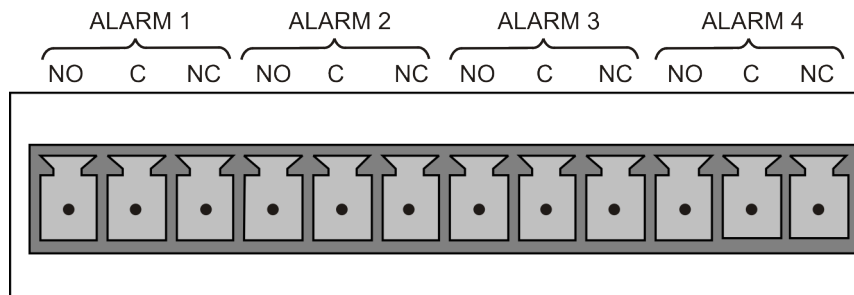

Figure 2-9. Concentration Alarm Relay
The concentration alarm option provides four (4) “dry contact” relays on the rear panel (Figure 2-9) , each with 3 pins: Common (C), Normally Open (NO), and Normally Closed (NC). The Relays can be mapped to reflect various internal instrument conditions and states. Configure these outputs through the Setup>Digital Outputs menu (Section 2.5.7) under MB Relay [1 thru 4].